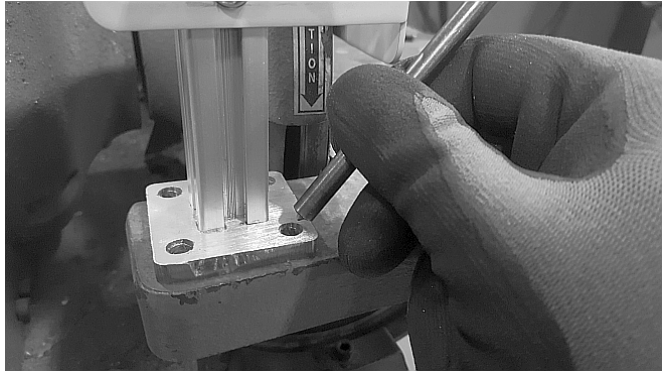

Figure 2.
3. Mark the holes of the included mounting brackets. You can use a transfer punch or a marker. If all four holes of each bracket are not above a solid surface, mark only the holes that do. A minimum of two bolts per bracket is all that is needed. (See figure 2)